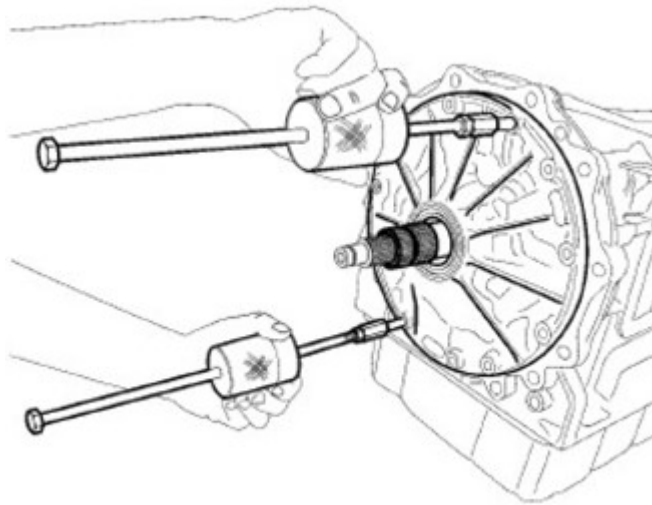

Fig. 5
8. Remove the bolts securing the oil pump to the transmission case and use Slide Hammers C-3752 with adapters 9981 to remove the oil pump assembly from the transmission spline (Fig. 5) .